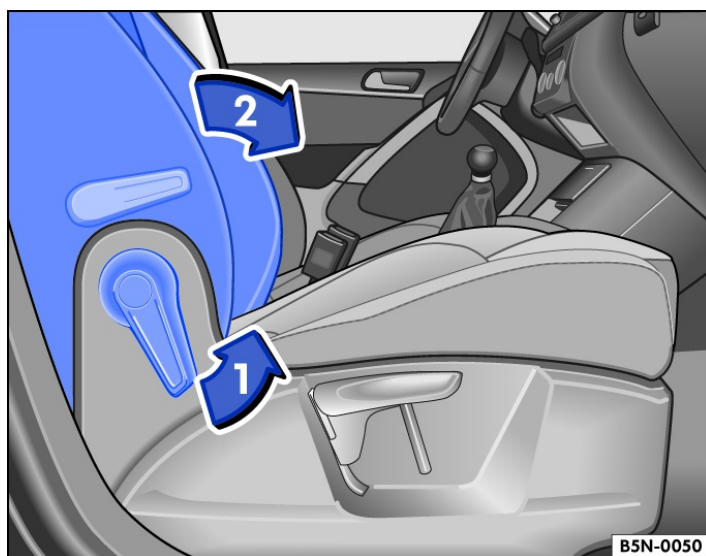

Fig. 1 Front passenger seat: folding backrest forwards.
- Release the front passenger seat backrest in the direction of the arrow → Fig. 1 ①.
- Fold the front passenger seat backrest forwards in the direction of the arrow → Fig. 1 ² until it is horizontal. When it is folded down, the front passenger seat backrest must engage securely into place.